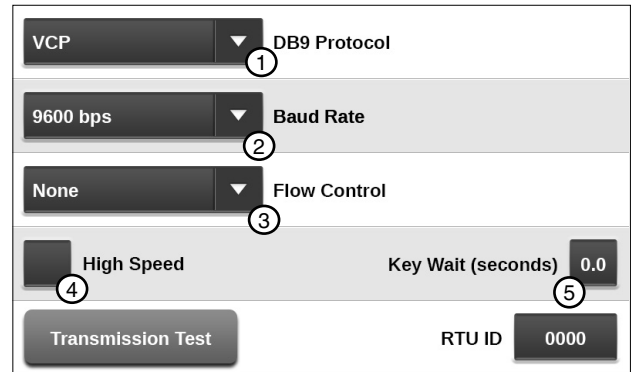

Figure 45-1 DB9 Comm Port Screen
To enable the High Speed, check the High Speed checkbox. Refer to Figure 45-1.
1. Select the Key Wait field for the Comm Port. Refer to Figure 45-1.